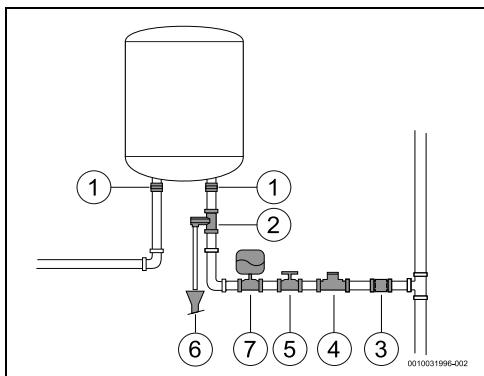

Fig. 13
- ▶ Close the water shut-off valve (→ Fig. 13, [5]).
- install a reduce valve (Fig. 13, [4]). The pressure relief valve is always triggered once the water pressure in the tank exceeds 8 bar ( $\pm 1$  bar), and the discharge water then needs to be channelled off.
- install an expansion vessel (Fig. 13, [7]) to avoid opening the pressure relief valve so frequently. The volume of the expansion vessel must be equivalent to 5% of the appliance volume.